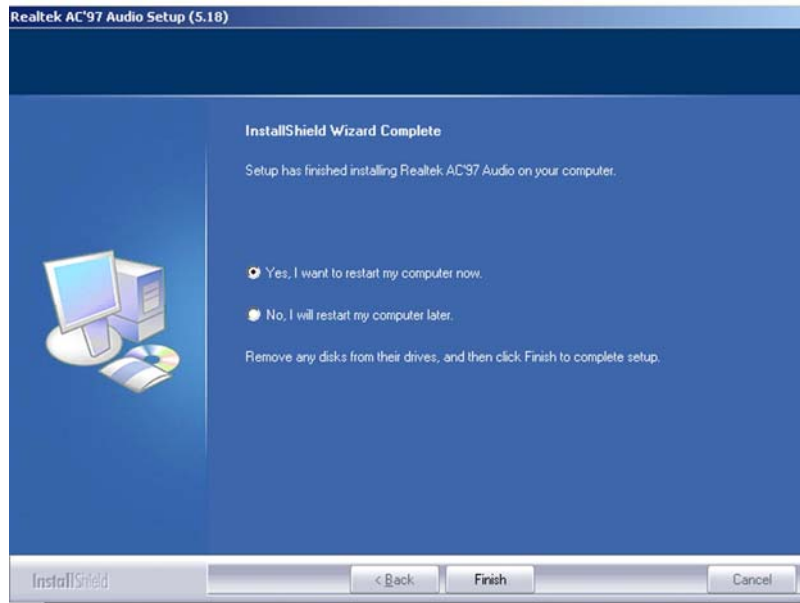

Figure 6-27: AC`97 Audio Driver Installation Complete
Step 9: After the driver installation process is complete, a confirmation screen shown in **Figure 6-27** appears.
Step 10: The confirmation screen shown in **Figure 6-27** allows you to restart the computer immediately after the installation is complete or to restart the computer later. For the settings to take effect the computer must be restarted. Once you have decided when to restart the computer, click the “**FINISH**” button.